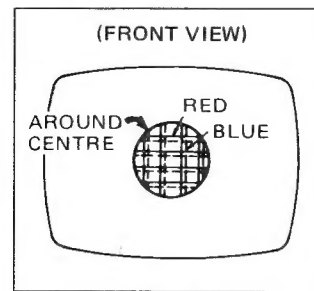

Fig. B-5
3. Rotate the front pair of tabs (four pole convergence magnet) as a unit to minimize the separation of the red and blue lines around the center of the screen. To adjust the convergence of red and blue, vary the angle between the tabs. (Fig. B-5)